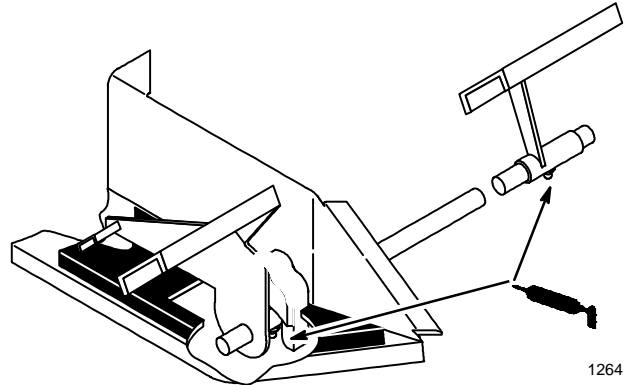

Figure 26
3. Lubricate the traction control pedal on hydrostatic models (or brake and clutch pedals on gear drive models) where they pivot on mounting shaft (Fig. 26).